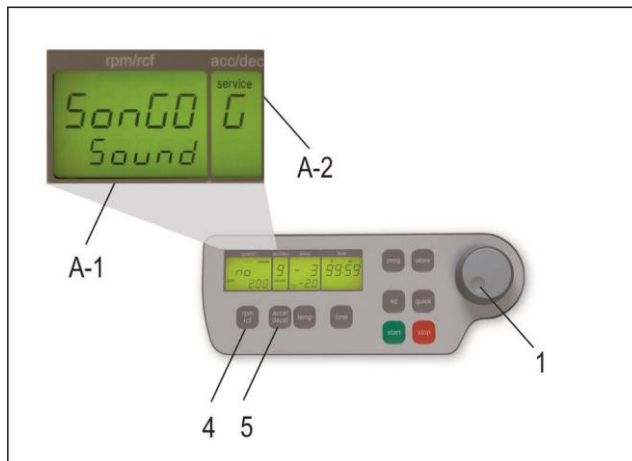

Figure 11
Proceed as illustrated under point 1.9.1 to enter this program mode, press the key "accel/decel" (5). In the display "accel/decel" (A-2) flashes the word "service". Select the letter "G" with the adjustable knob (1). As a result appearing in the display "rpm/rcf" (A-1) the word "SonGo/Sound". After pressing the key „rpm/rcf“ (4) select a song with the adjusting knob (1), (see Figure 11).